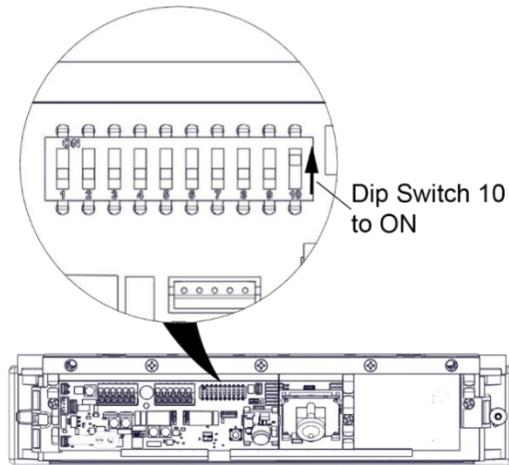

Figure 44. Setting Dip Switch 10 to ON
2. Using a Phillips screwdriver, REMOVE the two (2) screws securing the cover
4. SET Dip Switch 10 to "ON" (see Figure 44, "Setting Dip Switch 10 to ON").